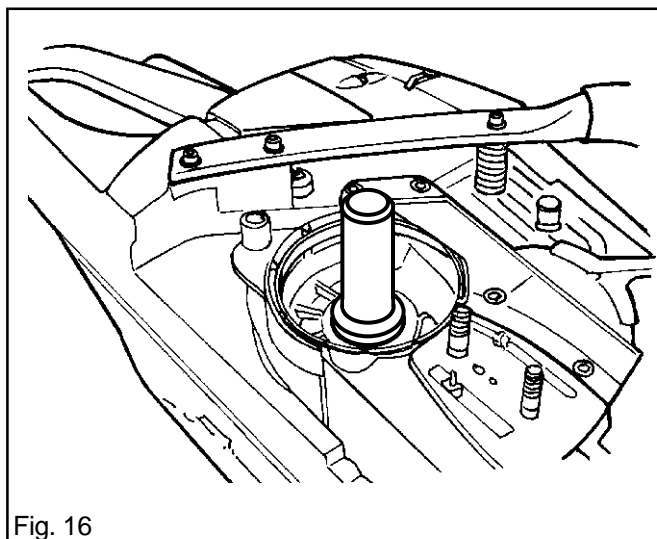

Fig. 16
3. Tap in the new seal with the drift (pos. 10 or 11 on page 6 and 7). See fig. 16.
4. Fit the parts in accordance with pos. 1 above.